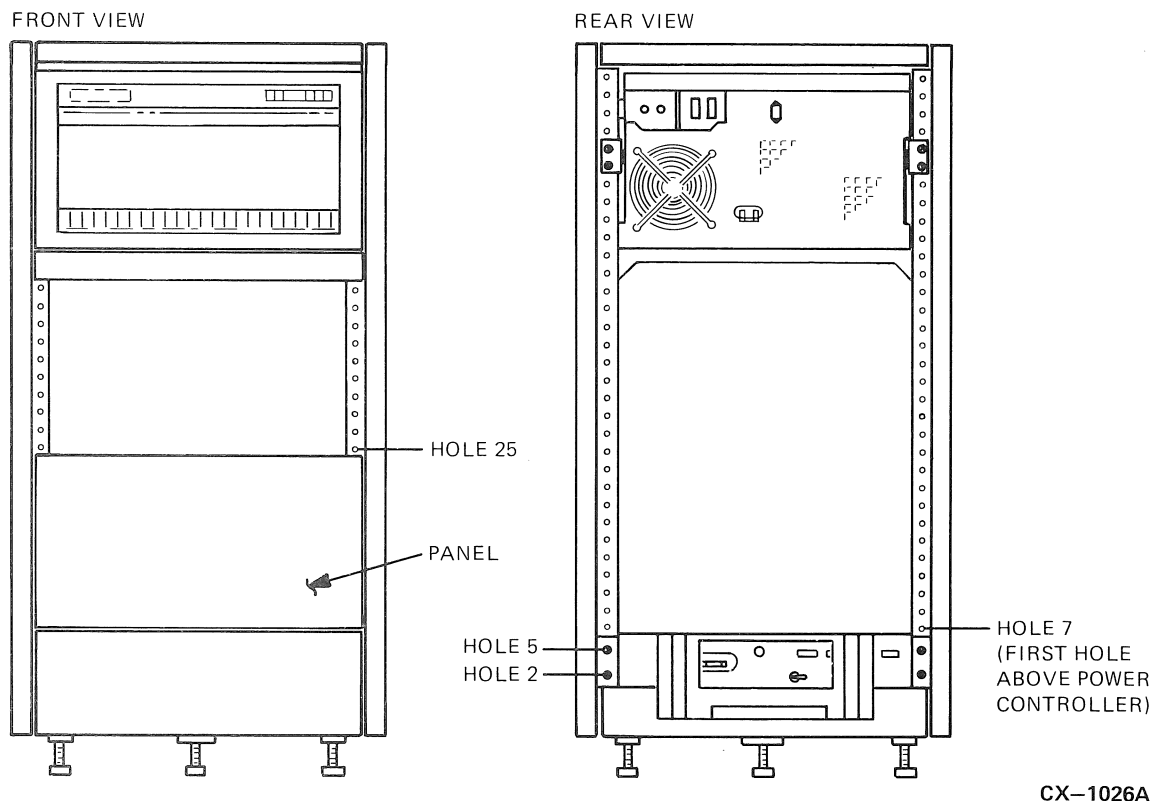
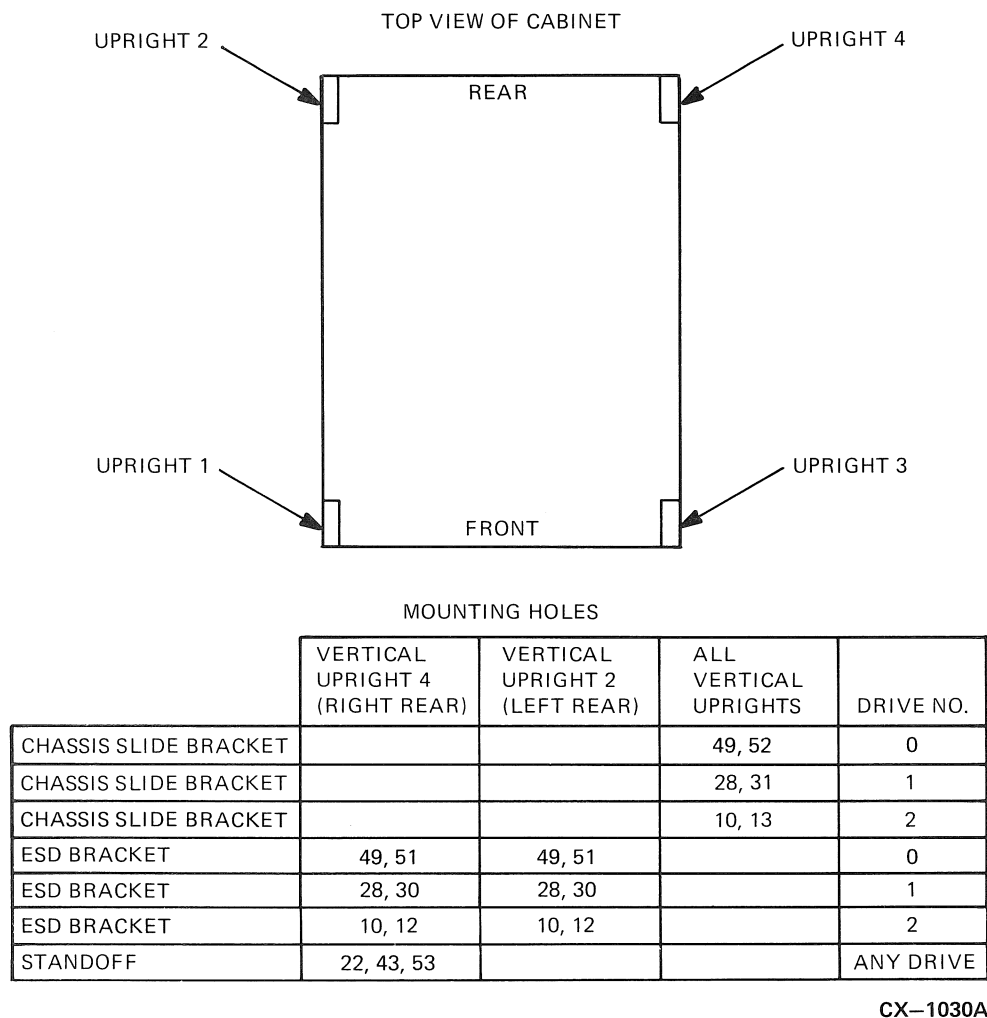

Figure 4-14 Cabinet Upright Holes (40-Inch Cabinet)
Figure 4-15 Mounting Hole Table
Drives must be mounted on a slide assembly. Refer to Figure 4-14 and Figure 4-15 for the proper installation hole locations in the 40-inch (three-high) cabinet.
1. Go to the rear of the drive cabinet. Counting from the bottom, locate and mark the mounting holes in both rear cabinet uprights. Refer to Figure 4-14.
2. Go to the front of the drive cabinet. Counting from the bottom, locate and mark the mounting holes on both front cabinet uprights. Refer to Figure 4-14.
Cable standoffs and U-nuts are used with cable clamps in the three-high cabinet to hold the cables away from the rear vertical uprights. The number of cable standoffs to install depends upon the number of drives in the cabinet. Refer to Figure 4-15 for the proper three-high RA82 cabinet installation holes.
3. Slide each U-nut over the hole of the rear vertical upright designated in Figure 4-15. The threaded portion of the U-nut should face the inside of the cabinet.